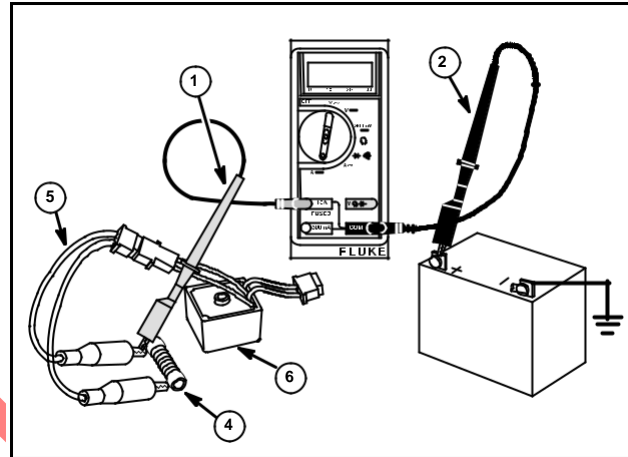

Fig. 31
1. Insert RED test lead (1) into 10 A receptacle in meter.
2. Inset BLACK test lead (2) into COM receptacle in meter.
4. Connect test harness (5) to output connector and attach alligator clips to 1 ohm 20 watt resistor (4) as shown in Fig. 31.
7. If no output or low output is found, replace the regulator-rectifier (6).